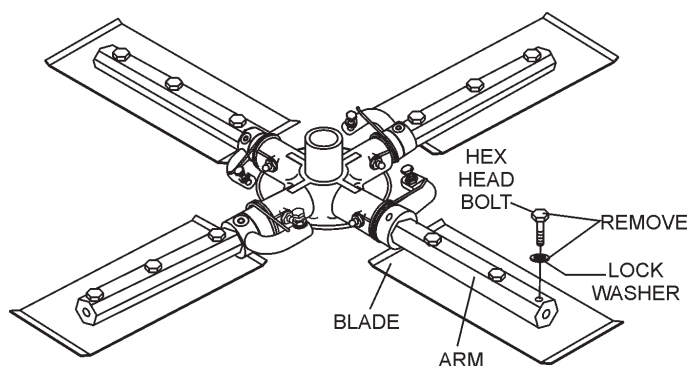

Figure 25. Trowel Blades
- Remove the trowel blades from the trowel arm by removing the three hex head bolts (Figure 25) from the trowel arm. Set blades aside.